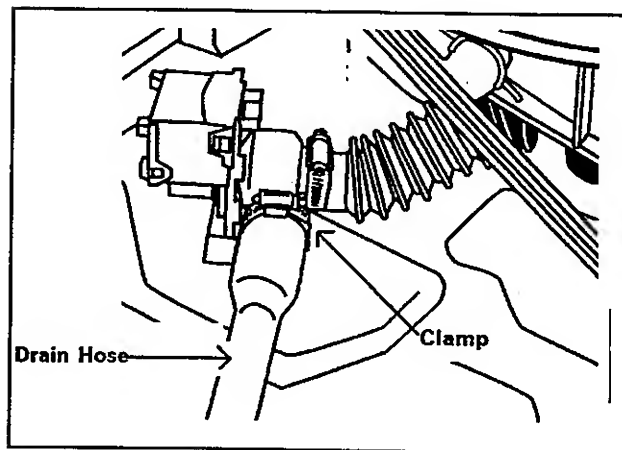

Figure 6-11
4. With access into the machine compartment, spread a towel under the connection of the drain hose to the pump. Loosen the clamp and remove the drain hose (Figure 6-11).